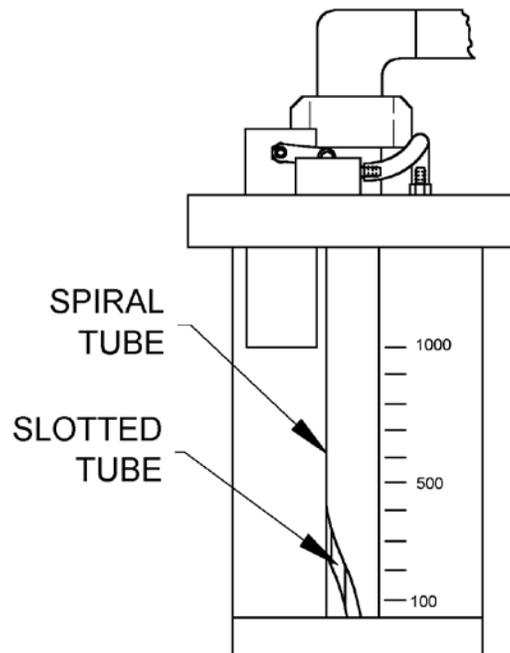

Figure 9. Setting the Sample Size.
2. Twist the spiral tube so that its opening aligns with the inner slotted tube at the level corresponding to desired sample volume. See Figure 9. Make sure the spiral tube stays seated up against the bottom of the chamber top.